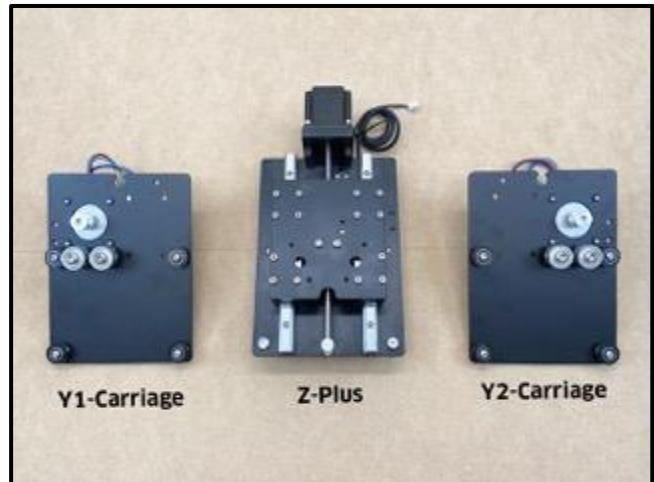

Figure 3-6
1. Gather the three (3) carriages (see *Figure 3-6*):